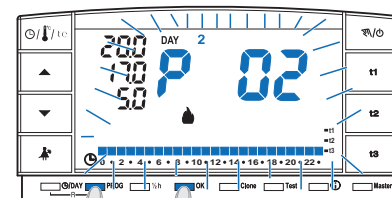

fig. 8
- Press the **PROG** key to enter into program display, press the **▲▼** keys (or else quickly press **PROG**) until the display shows the program number you want to select. Programs **P 02 (winter)** and **P 03 (summer)**, as per their factory setting, have all the digits on the 24h scale related to **t3** temperature (Absence), example in fig. 8.